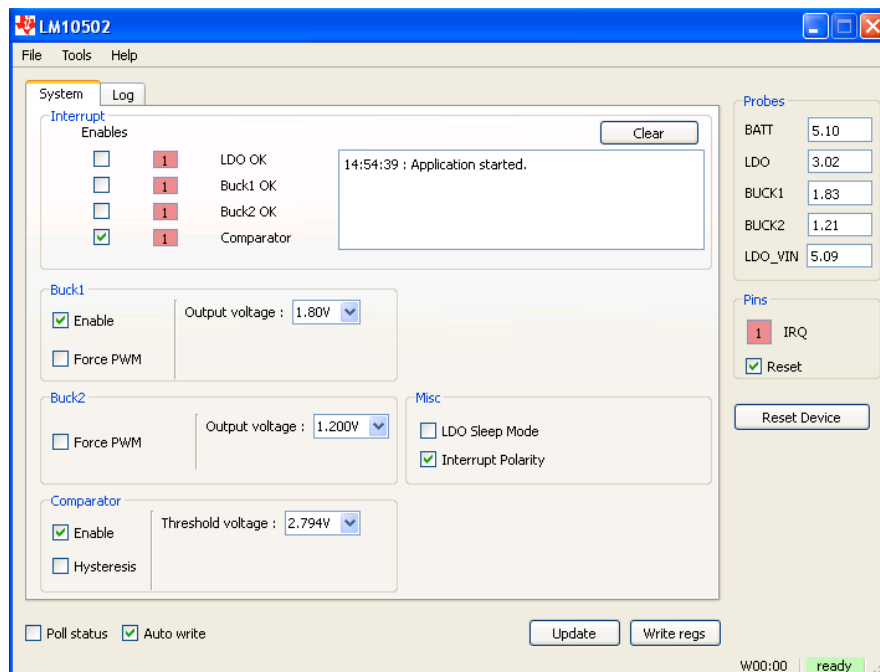

Figure 2. System Settings Tab
5.1 Main Screen (Figures 2 & 3)
5.4 System Settings Tab (Figure 2)